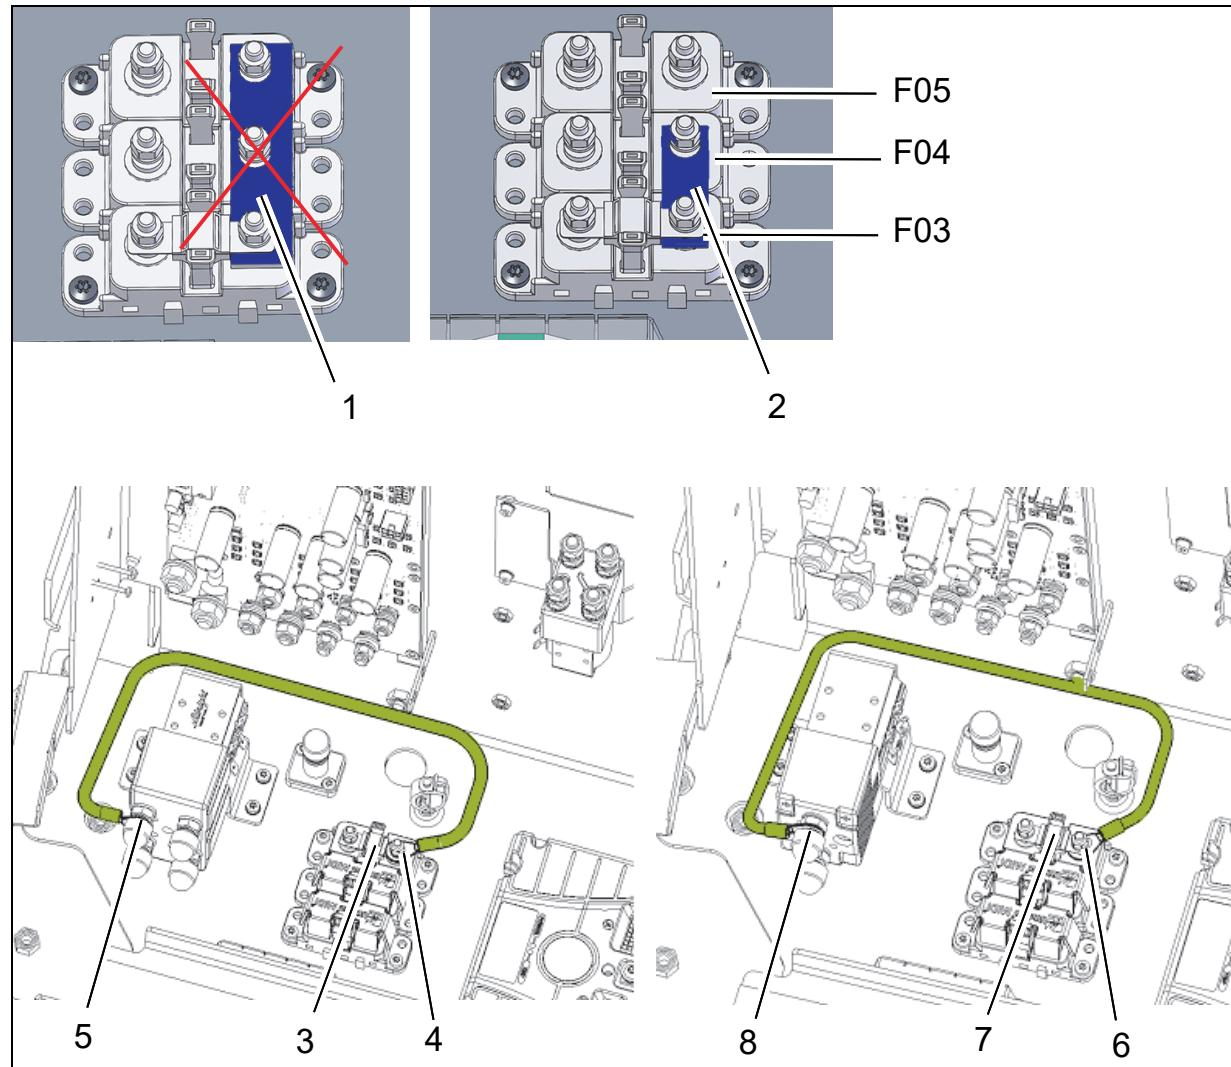

Fig. 4
If there is a triple conductor rail (Fig. 4/1) via F03, F04 and F05, the existing one must be replaced with the provided dual conductor rail (Fig. 4/2).
1. Place fuse F05/1 (30 A) onto fuse holder (Fig. 4/3) and screw to connection F05/1/1 of the WS20 (Fig. 4/4).
2. Connect WS20 with designation K1/K1/1 to relay K1/K1/1 (Fig. 4/5).
1. Place fuse F05 (30 A) onto fuse holder (Fig. 4/6) and screw to connection F05/1/1 of the WS20 (Fig. 4/7).
2. Connect WS20 with designation K1/K1/1 to relay K04/K/P (Fig. 4/8).
Plug diagnosis plug into slot X20 of controller A1 (Fig. 4/1).